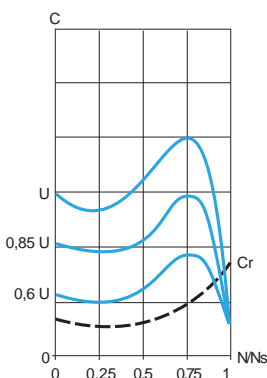

Figure 2
- Figure 2 shows the torque/speed characteristic of a squirrel cage motor in relation to the supply voltage. The torque varies like the square of the voltage at a fixed frequency. The gradual increase in the voltage prevents the instantaneous current peak on power-up.